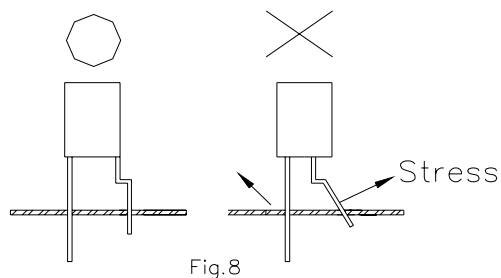

Fig.8
3) Form the lead to ensure alignment between the leads and the hole on board, so that stress against the LED is prevented. (Fig.8)